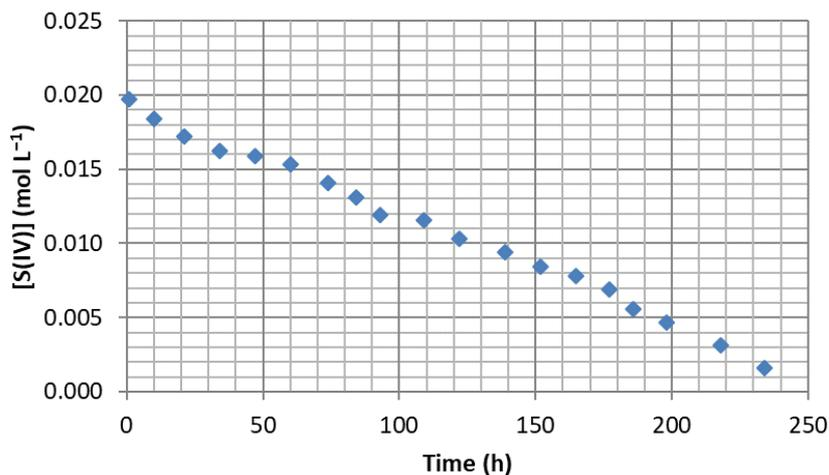

Figure 1: [S(IV)] as a function of time for the fructose - glycine - sodium metabisulphite S(IV) reaction
The first experiment (A) was carried out by adding $n_{\text{Fru,A,0}} = 1 \text{ mol}$ of fructose, $n_{\text{Gly,A,0}} = 0.5 \text{ mol}$ of glycine and $n_{\text{S(IV),A,0}} = 0.02 \text{ mol}$ of **S(IV)** at the same time to a 1 L sodium acetate/acetic acid buffer. Every 15 hours (roughly), an aliquot of 1 mL was extracted from the reactive medium, put in a cell of $l = 1 \text{ cm}$ and a drop of Ellman's reagent was added. The absorbance was measured after stirring. Results obtained from this experiment are shown in figure 1.
4. **Choose** a wavelength to measure the absorbance of the aliquots of experiment (A).